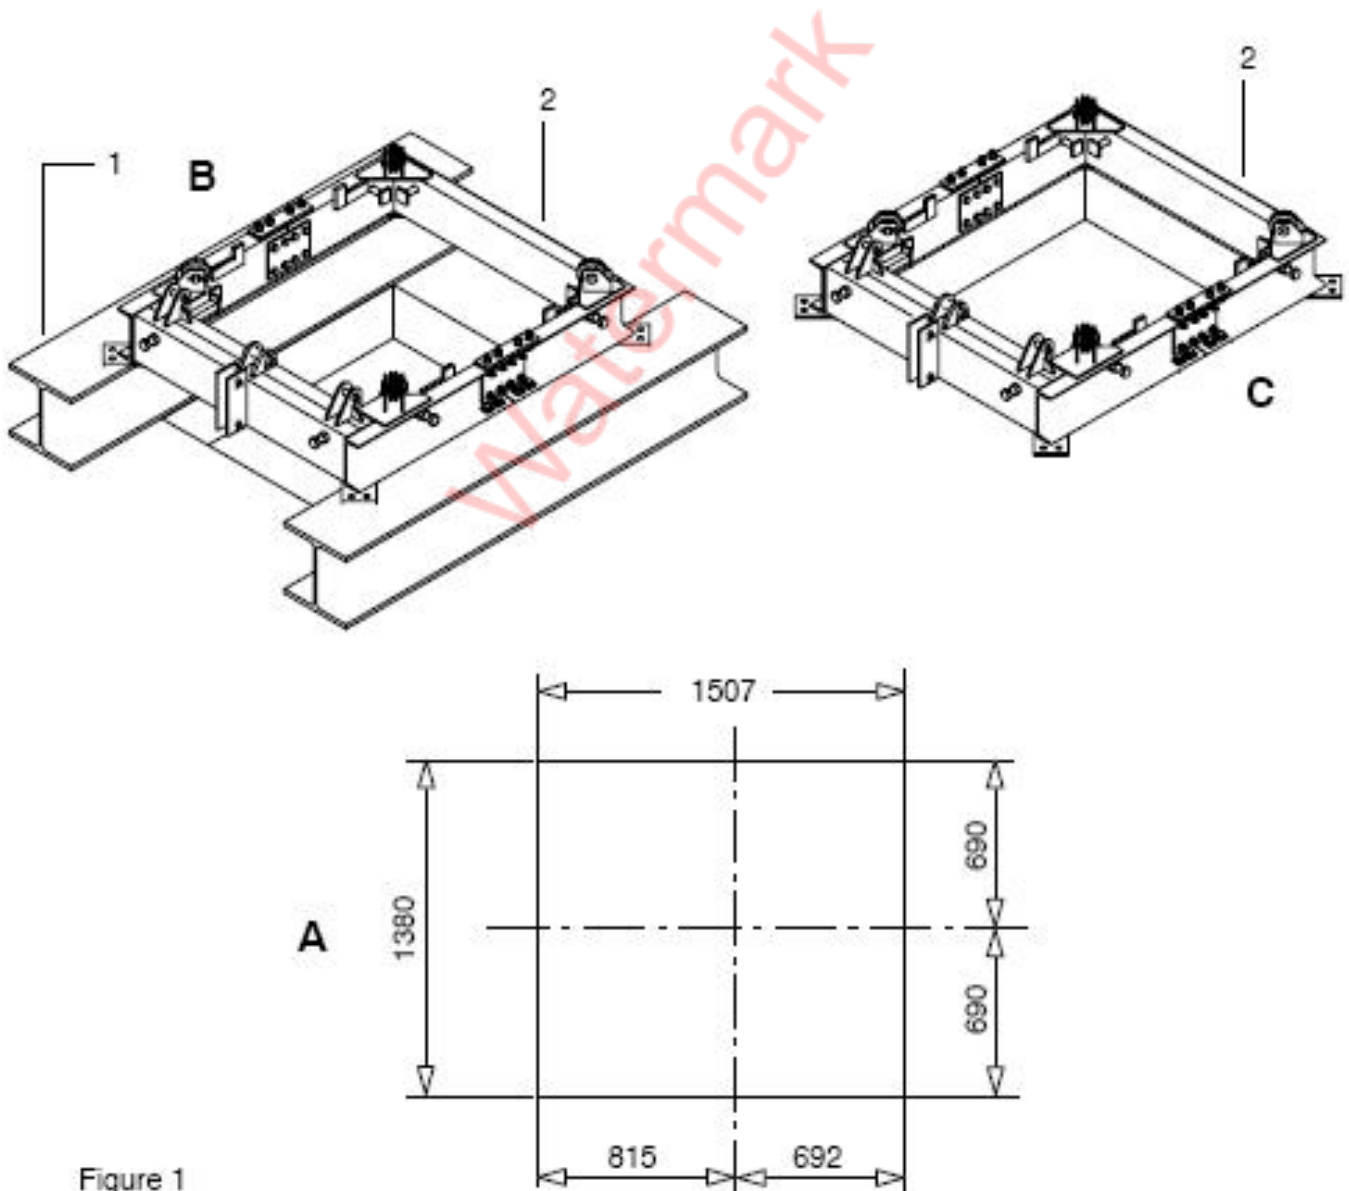

Figure 1
Therefore, it is essential to observe the dimensions indicated in (Detail A – Figure 1) .
_ either onto two support beams (1) provided for this purpose and prepared by the customer according to the reactions given in the DATA SHEET (Detail B – Figure 1).
_ or directly onto the floor. In this case, these floors must take up the vertical and horizontal reactions given in the DATA SHEET. The climbing collars will be blocked onto the floors by means of threaded rods or equivalent accessories (Detail C – Figure 1).